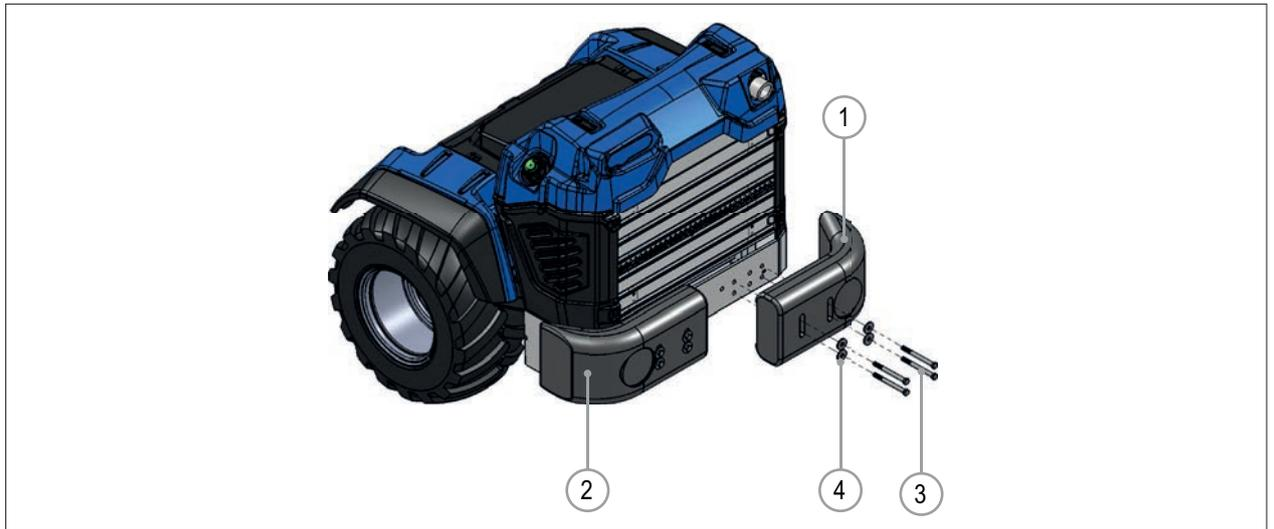

FIG. 59
- 2) Using a lifting device, position one of the backweights (FIG. 59 - Ref. 1) at the rear bumper of the machine.
- 3) Secure the backweight to the bumper using the bolts and washers (FIG. 59 - Ref. 3 and Ref. 4).
- 4) Repeat the procedure for the second half of the backweights (FIG. 59 - Ref. 2).